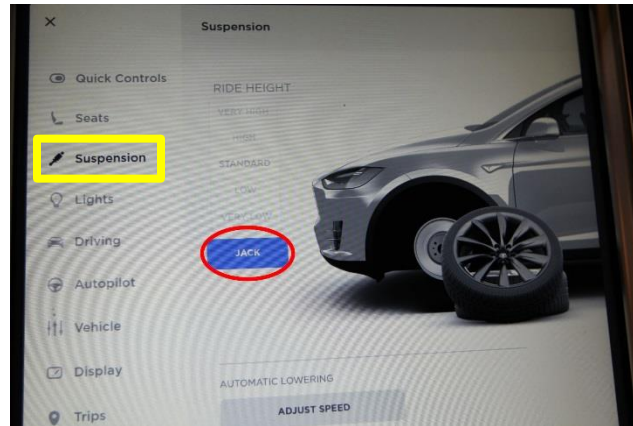

Figure 4 (Set Jack mode, Model S and Model X)
1. If the vehicle has an air suspension, on the vehicle touchscreen, touch Controls (vehicle icon), touch Suspension, press and hold the brake pedal and touch Jack to set Jack Mode (Figure 4).